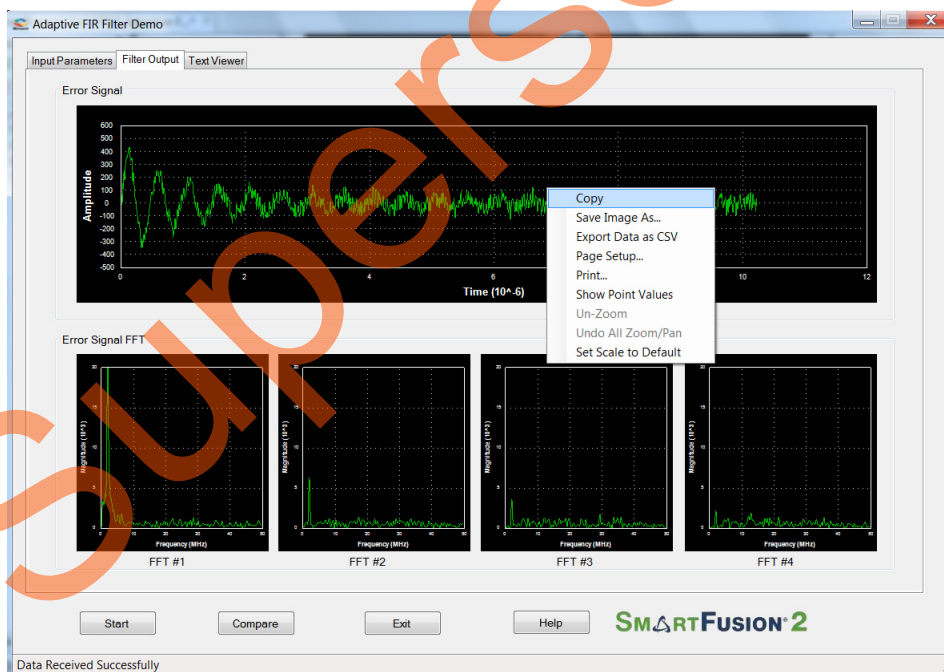

Figure 24 • Error Signal - GUI Options
13. It shows the different options as shown in Figure 24. The data can be copied, saved, and exported to CSV plot for analysis purpose. Page setup, print, show point values, Zoom, and set scale to default.